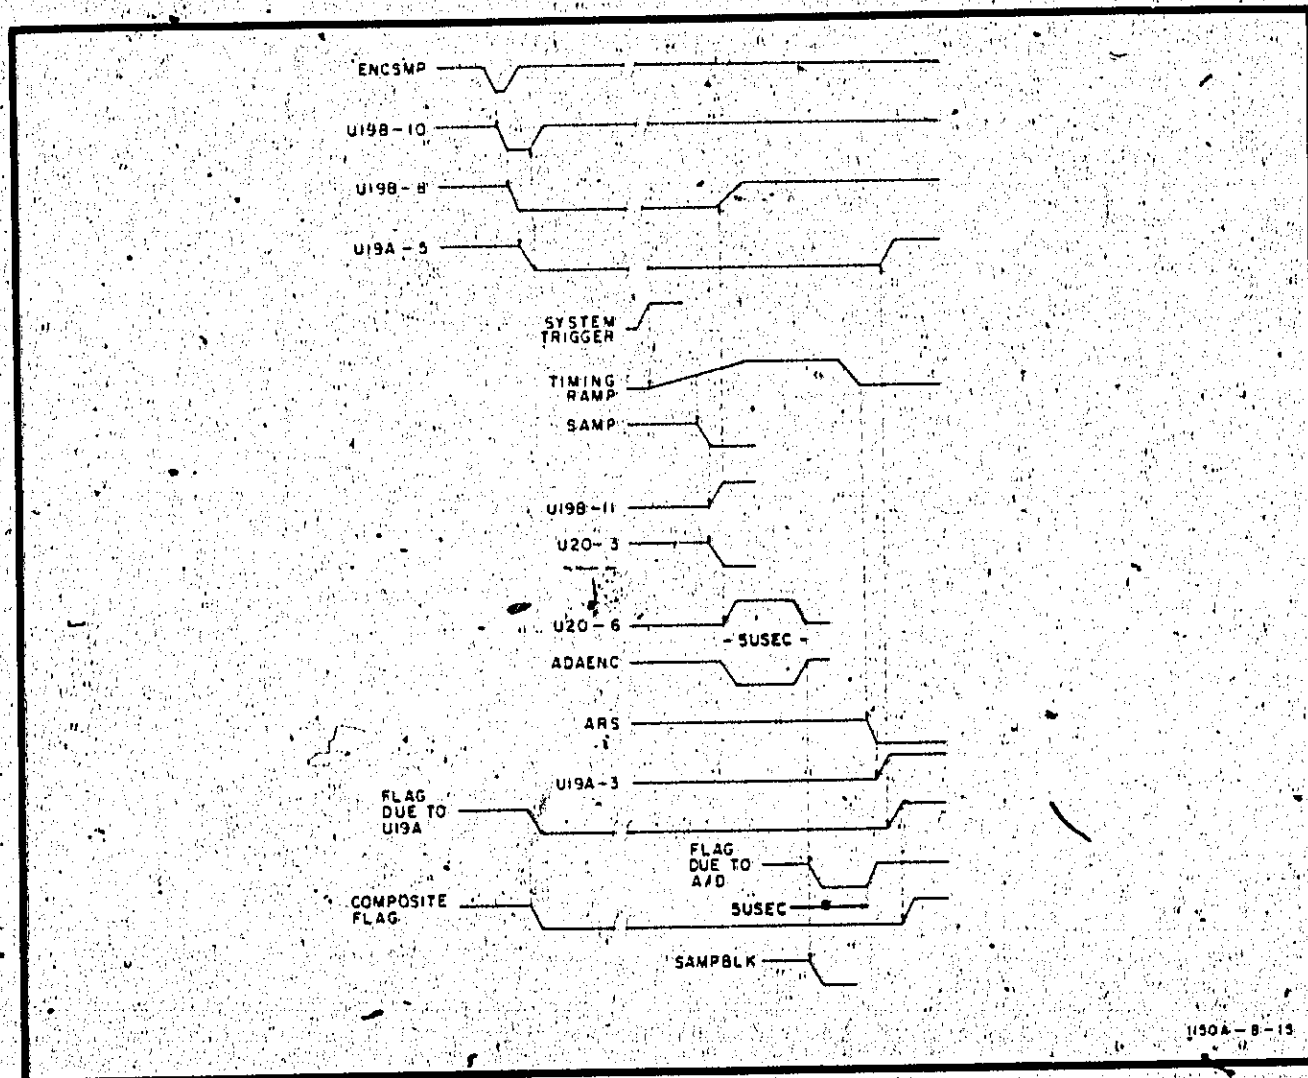

Figure 4-27. Digital Scanner Timing Waveforms
a. In Program mode of operation, the sequence is started by ENCSMP which results from a computer command to assembly A07 (figure 4-27).
The waveforms in figure 4-27 are not drawn to an accurate X-axis time scale. They are drawn to show relationship only.
f. The circuitry is reset to initial conditions by the negative edge of ARS. ARS is level shifted and inverted by Q1. The positive transition of ARS clocks U19A, forcing U19A (pin 5) high and U19A (pin 6) low. The low from U19A (pin 6) is applied to U16C, forcing the Flag high (not busy). Observing the waveforms in figure 4-27, it can be seen that the composite Flag is made up of the wired-OR Flag generated by ENCSMP and the A/D Converter.